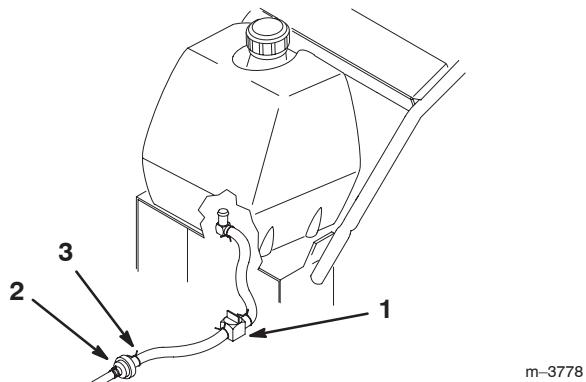

Figure 40
- Close the fuel shut-off valve in fuel line (Fig. 40).
- Squeeze the ends of the hose clamp together, and slide it up the fuel line away from fuel filter (Fig. 40).
- Pull the fuel line off the fuel filter (Fig. 40).
- Close the fuel shut-off valve (Fig. 40).
- Squeeze the ends of the hose clamps together and slide them away from the filter (Fig. 40).
- Open the fuel shut-off valve at the fuel tank (Fig. 40).